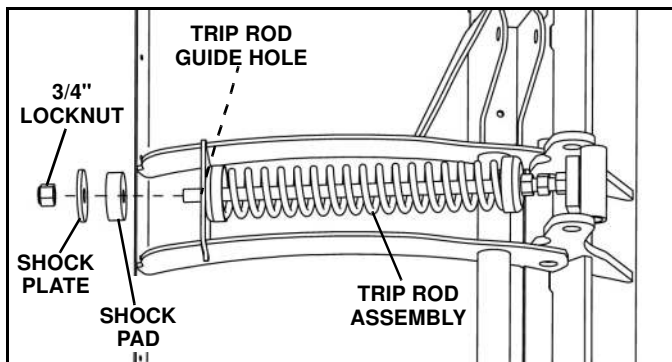

Figure 1-9
6. Slide the trip rod assembly into a trip rod guide hole in the blade (See Figure 1-9)